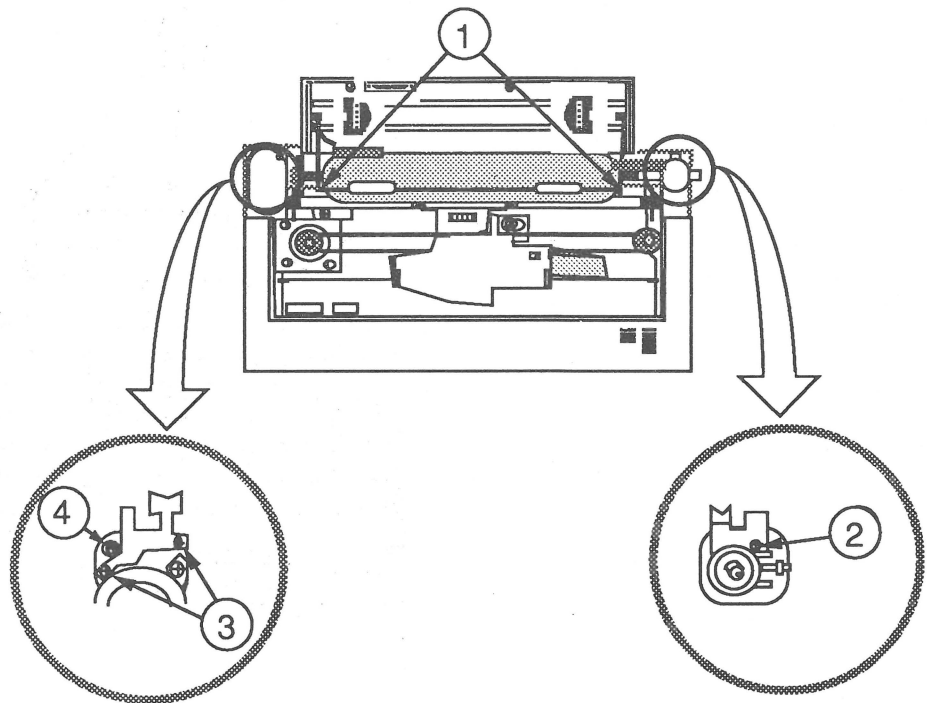

FIGURE 25
3. Bring the paper bail assembly back down over the platen and reinstall the springs (Figure 25, #1).
4. Replace the left and right platen bushing plates. The left bushing requires two screws (Figure 25, #3) and needs to be held tightly in place against the metal frame while seating the small tab on the very end of the paper bail onto the small groove in the bushing. Also replace the ground wire (Figure 25, #4).
The right bushing (Figure 25, #2) is somewhat similar but needs only one screw. On the bushing itself is a notch that must sit in a cut-out in the frame. Once these bushings are installed, the tabs on each end of the paper bail, when it is lifted up, should rest on the grooves in the bushings.